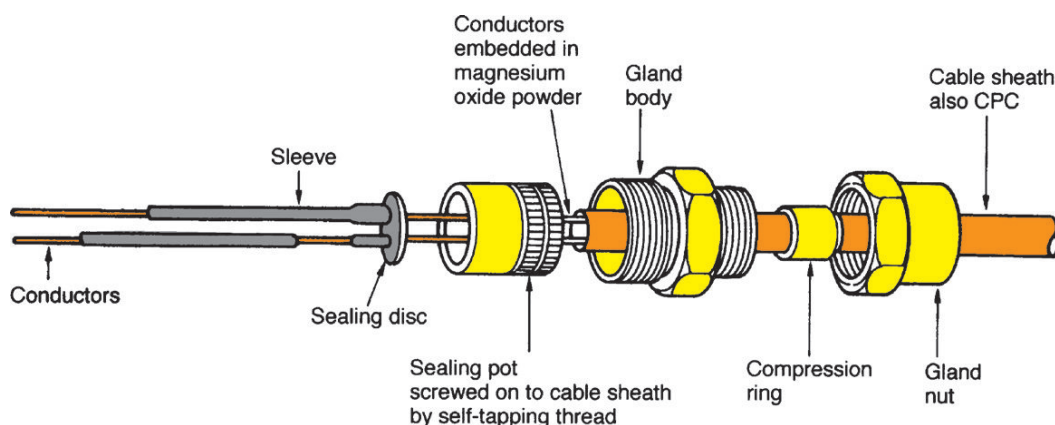

Figure 4.14 MI cable with terminating gland and seal.
Mineral insulated (MI) cables are waterproof, heatproof and corrosion resistant with some mechanical protection. These qualities often make it the only cable choice for hazardous or high temperature installations such as oil refineries, chemical works, boiler houses and petrol pump installations. An MI cable with terminating gland and seal is shown in Fig. 4.14.